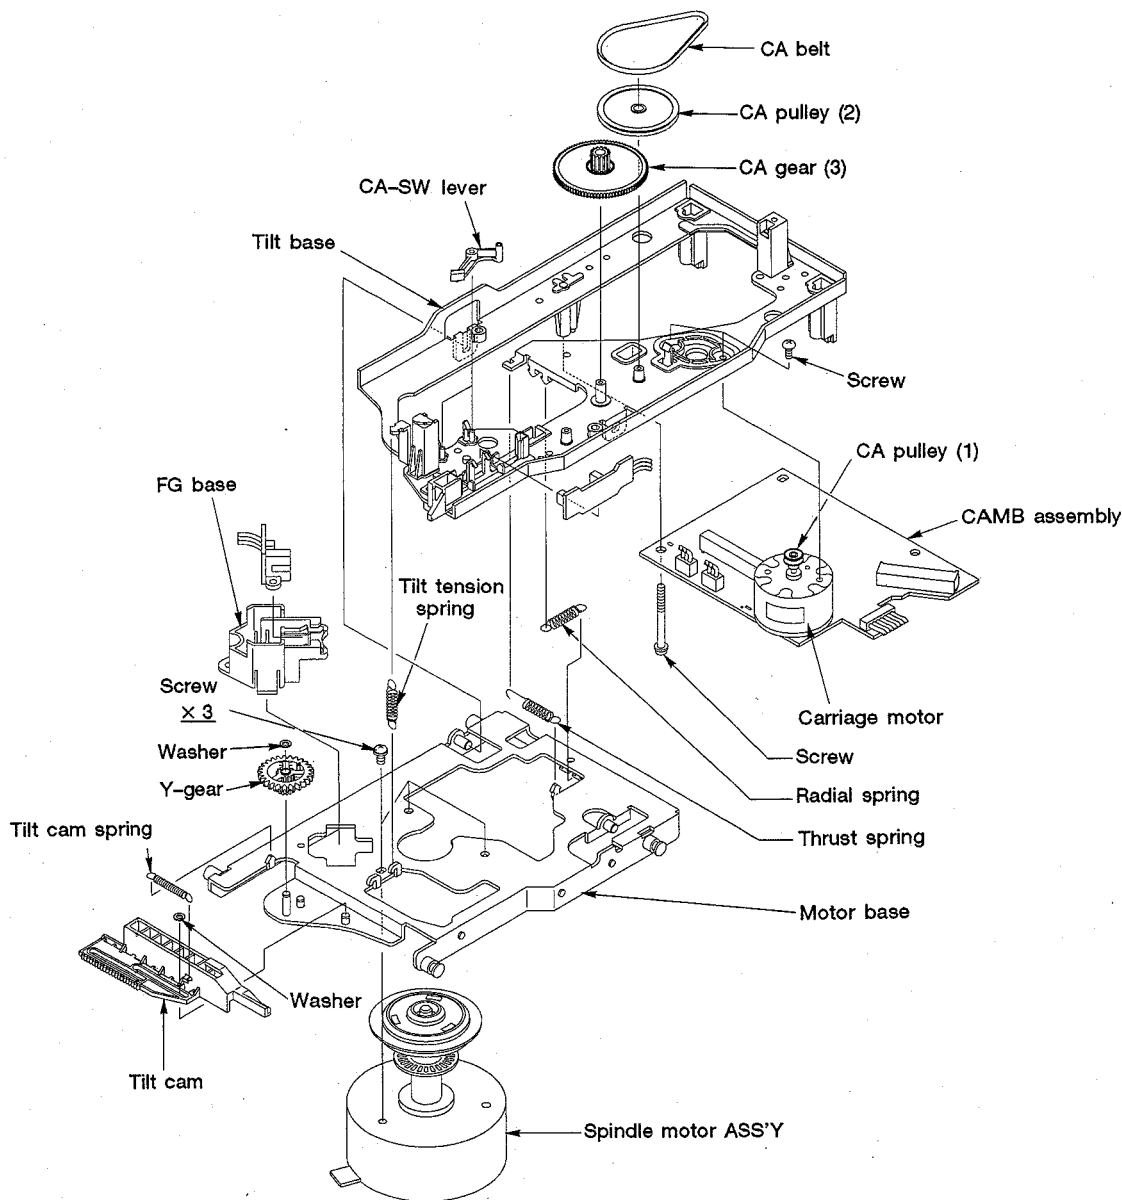

Fig. 2-3 Servo Mechanism unit
- ② Servo-mechanism unit (Fig. 2-3)
② Servo-Mechanism Unit (Refer to Fig. 2-3)